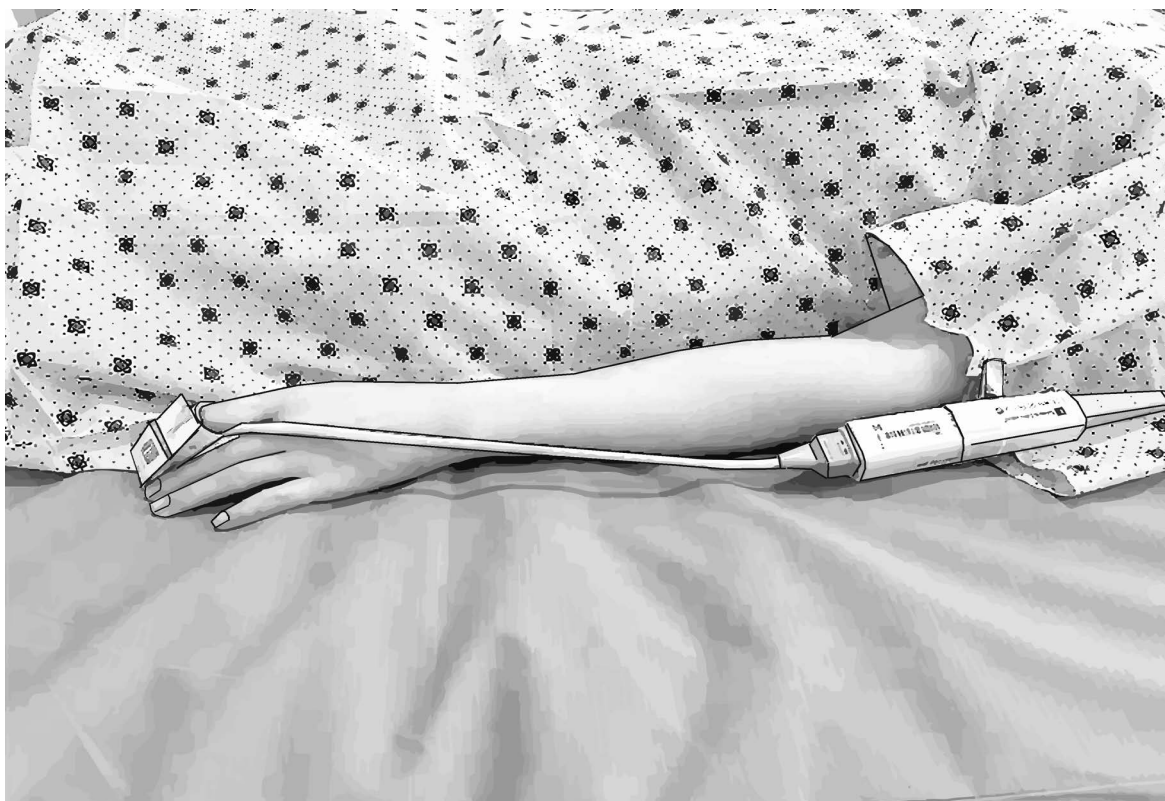

Figure 11-5 Smart pressure controller clip(s)
- 2 Use the Smart pressure controller cable clip(s) to place the Smart pressure controller near the patient's forearm. See figure 11-5 (preferred location)